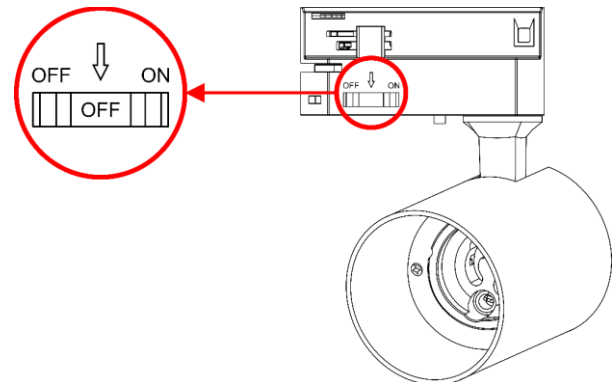

Fig. 11
- 03) Set the **circuit selector (05)** to OFF position, as shown in Fig. 11.